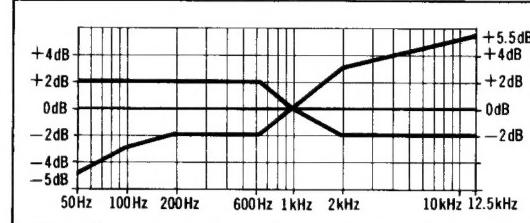

Fig. 18
<p>1) Increase bias current by turning VR7 (L-CH) and VR8 (R-CH). (See fig. 2 on page 3.)</p> <p>2) Repeat steps 6 and 7 to confirm. (Proceed to steps 8, 9 and 10 if the curve is now within the charted specifications in fig. 13.)</p> <p>3) If the curve still exceeds the specifications (fig. 13), increase bias current further and repeat steps 6 and 7.</p> <p>8. Switch the tape selector to CrO₂, change test tape to QZZCRX, and record 50Hz, 100Hz, 200Hz, 500Hz, 1kHz, 4kHz, 8kHz, 10kHz and 12.5kHz signals. Then, playback the signals and check if the curve is within the limits shown in the overall frequency response chart for CrO₂ tapes (fig. 18).</p> <p>9. Switch the tape selector to Fe-Cr, change test tape to QZZCRY, and record 50Hz, 100Hz, 200Hz, 500Hz, 1kHz, 4kHz, 8kHz, 10kHz and 12.5kHz signals. Then, playback the signals and check if the curve is within the limits shown in the overall frequency response chart for Fe-Cr tapes (fig. 18).</p> <p>10. Switch the tape selector to Metal, change test tape to QZZCRZ, and record 50Hz, 100Hz, 200Hz, 500Hz, 1kHz, 4kHz, 8kHz, 10kHz and 12.5kHz signals. Then, playback the signals and check if the curve is within the limits shown in the overall frequency response chart for Metal tapes (fig. 18).</p> <p>11. Confirm that bias currents are approximately as follows when the tape selector is set at different positions.</p> <ul style="list-style-type: none"> * Read voltage on VTVM and calculate bias current by following formula: $\text{Bias current (A)} = \frac{\text{Value read on VTVM (V)}}{10 (\Omega)}$ <div style="border: 1px solid black; padding: 5px; margin-top: 10px;"> <p>around 410μA (Normal position) around 440μA (Fe-Cr position) around 545μA (CrO₂ position) around 800μA (Metal position)</p> <p style="margin-left: 20px;">}: measured at TP1 (L-CH) and TP2 (R-CH)</p> </div>